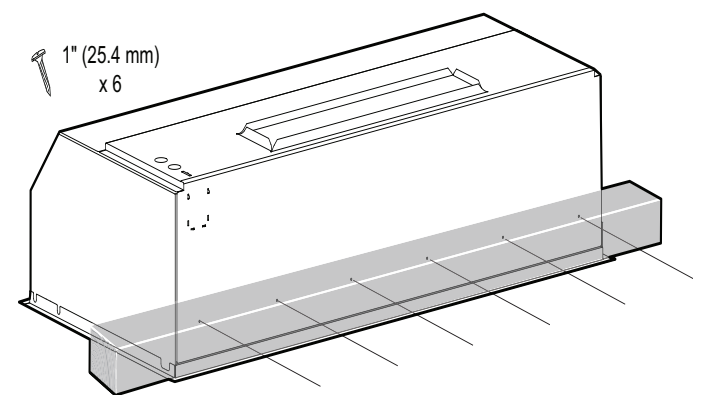

Figure 30: Rear Screws
- Secure to the rear of the housing framework using six (6) x 1" (25.4 mm) mounting screws, as indicated in Figure 30.